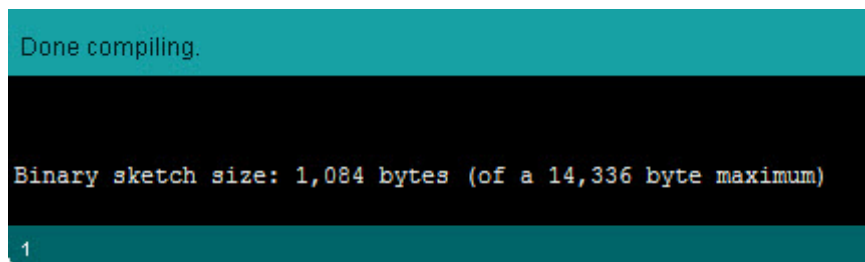

Figure2.3.9
2.3.8. If the C language code is correct and not found data error then information will be shown “Done compiling” and “Binary sketch size” as figure2.3.9.